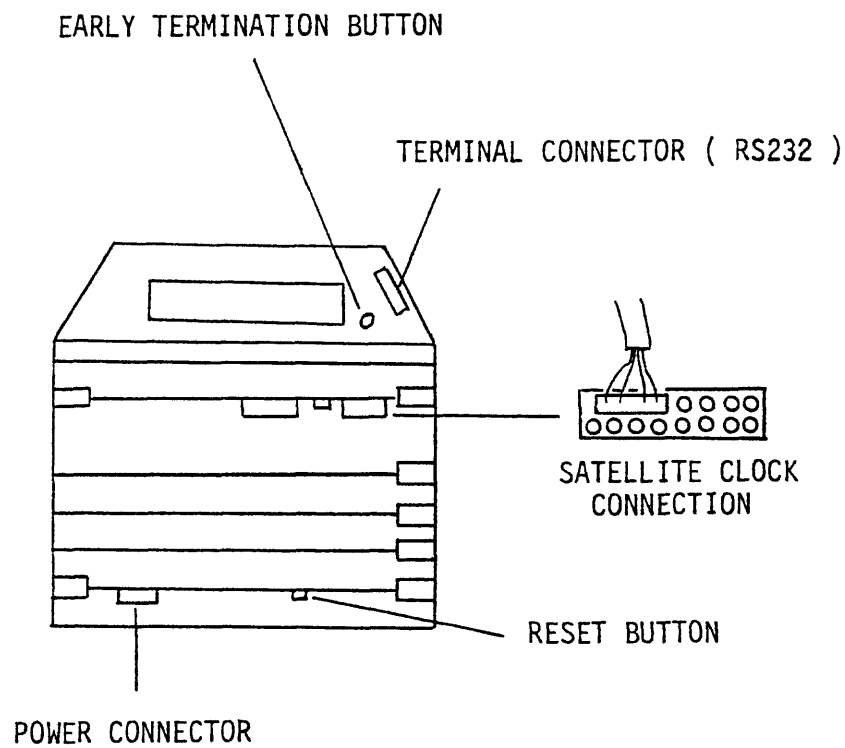

Figure 1. OBS Connections
1. Connect the RS232 cable from a standard computer terminal to the RS232 connector on the OBS electronics rack (Figure 1). The terminal should be setup for space parity, 7 data bits, 1200 baud, 1 stop bit, and no handshake lines.
3. Apply Power by connecting the plug from the battery pack to the plug located on the power interface board (Figure 1).
4. Press the reset button on power interface board in the OBS (Figure 1) to start the OBS program.
6. The first information entered into the OBS is the current time, which is used by the OBS to set its calendar in sync with the satellite clock or other time reference. This time sync procedure is important as time is the only reference for data recorded by the OBS system. Connect the satellite clock to the CPU board of the OBS (Figure 1). Read the current time from the satellite clock and add at least one minute. It is critical that you enter the time correctly, as there is no way for the instrument to verify your accuracy. Time is entered into the OBS in the following format: Year (YY = last two digits of the year), any separator (non numerical), Month (MM = a number from 1 to 12), any separator, Day (DD = a number from 1 to 31), any separator, Hour (HH = a number from 0 to 23), any separator, and Minute (mm = a number from 0 to 59). The separator commonly used is a slash (/), although commas, periods, etc. can also be used. The time entry should appear as follows:
If the satellite clock is connected, check to be sure the connector is correctly installed on the CPU board (Figure 1). To test whether or not the problem has been corrected, press RETURN. A successful repair will display nothing and the OBS will wait for the clock pulse to start the internal clock as described in clock-connected section (B). The following message will appear if the clock is still not properly connected: